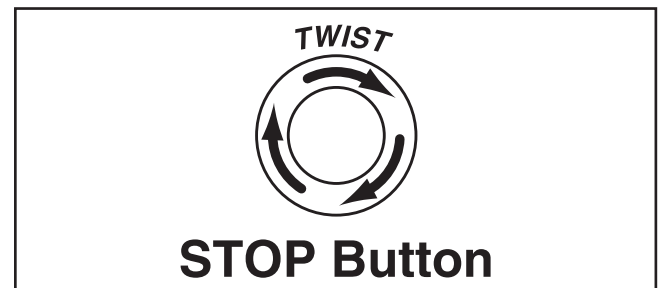

Figure 13. Resetting the STOP button.
3. Push the STOP button in, then twist it clockwise so it pops out. When the STOP button pops out, the switch is reset and ready for operation (see **Figure 13**).